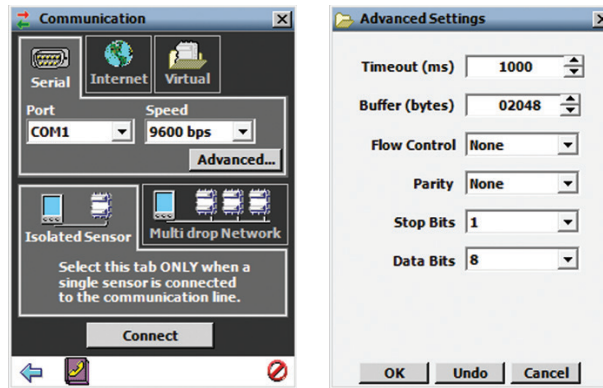

Figure 4.2 – Serial Connection (left) and Advanced Settings (right)
- 1 Click on **Communication** to access the Communication window (see Figure 4.2).